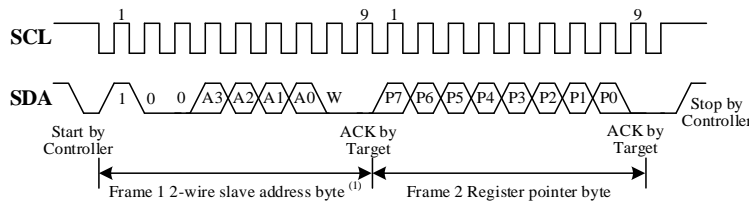

Figure 9. Typical Register Pointer Set
To access a specific SQ52206 register, the appropriate value must be written to the register pointer. For a comprehensive list of registers and their respective addresses, please consult Table 2. As shown in *Figure 9*, after transmitting the target address byte with the R/W bit low, the first byte transferred represents the value of the register pointer. It is important to note that every write operation to the device requires a value for the register pointer to be provided.
- Read data is retrieved from the last register pointer location. To read from a different register, the register pointer must be updated first. See Figure 9.